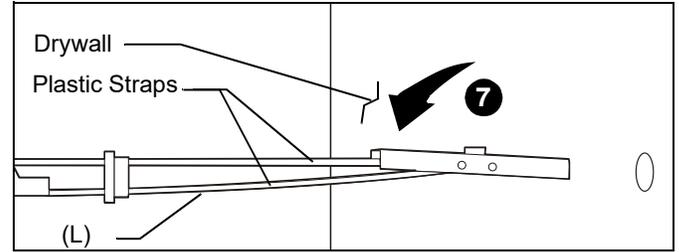

Figure 14
7. Hold metal channel on anchor (L) flat alongside plastic straps and slide channel through hole. (See Figure 14)